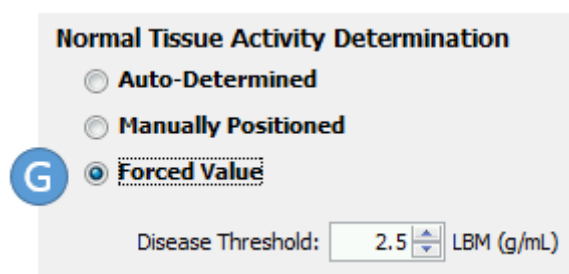

Figure 6-12 Auto-PERCIST™ Normal Tissue Activity Determination - Forced Value
The user can also force the program to use a user provided value by selecting the *Forced Value* option (Figure 6-12) (G). Doing so will instruct *Auto-PERCIST™* to use the user-specified value as the disease threshold without further manipulation.